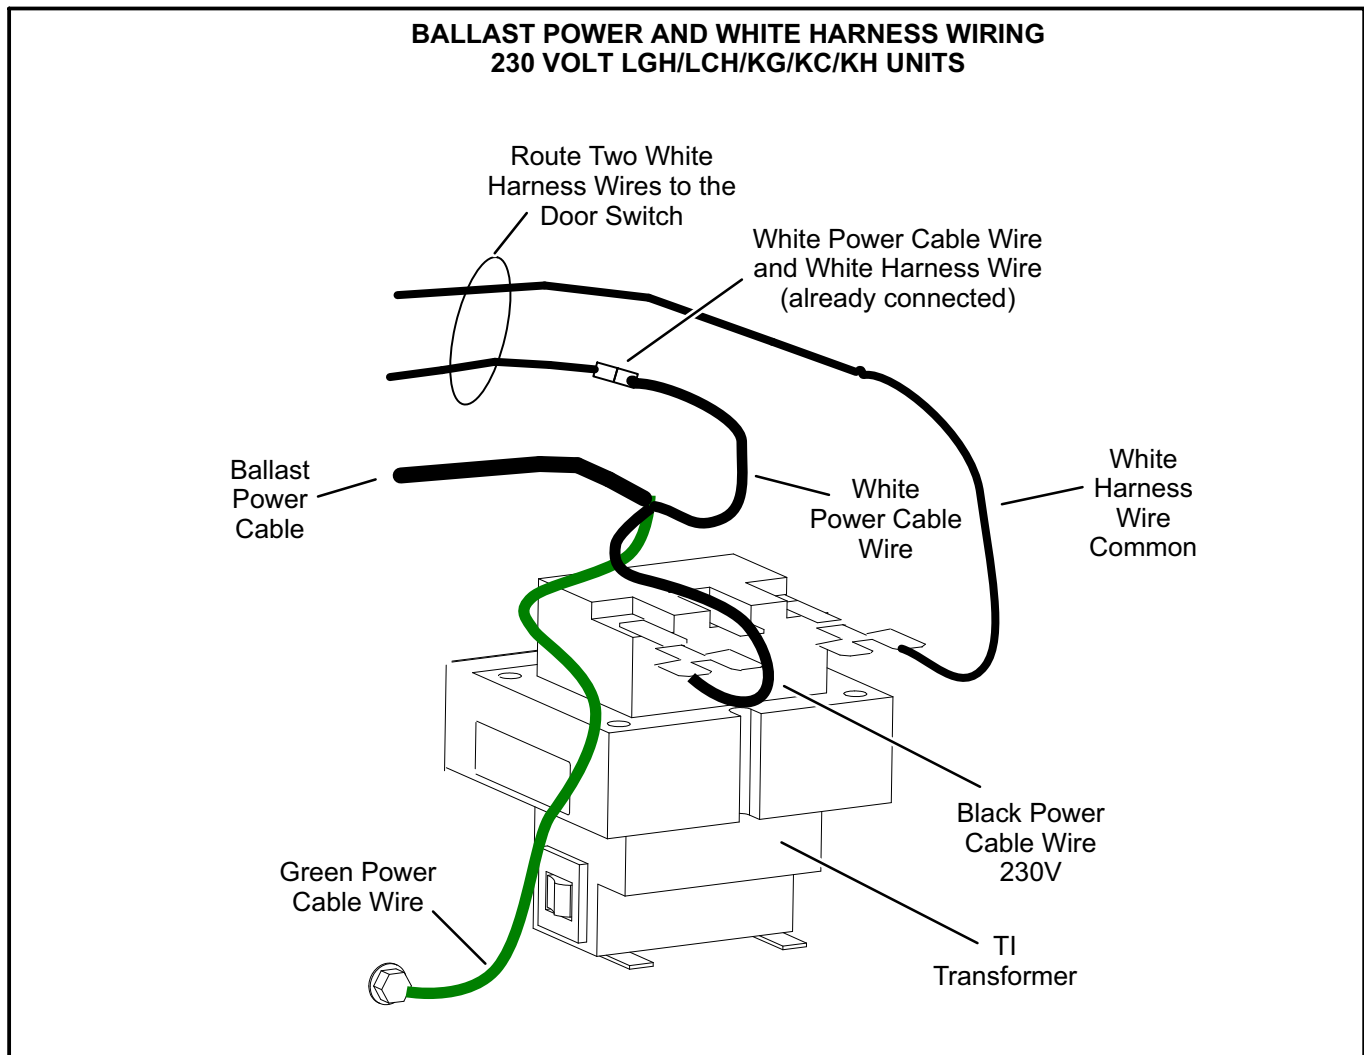

FIGURE 7
- Figure 7 - 230V LGH/LCH/KG/KC/KH